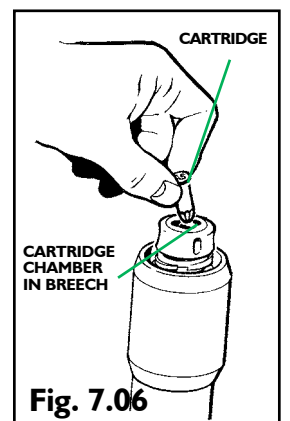

Fig. 7.06
- 2.3 Obtain a single cartridge, and load the cartridge into the cartridge chamber crimped end first (see Fig 7.06).